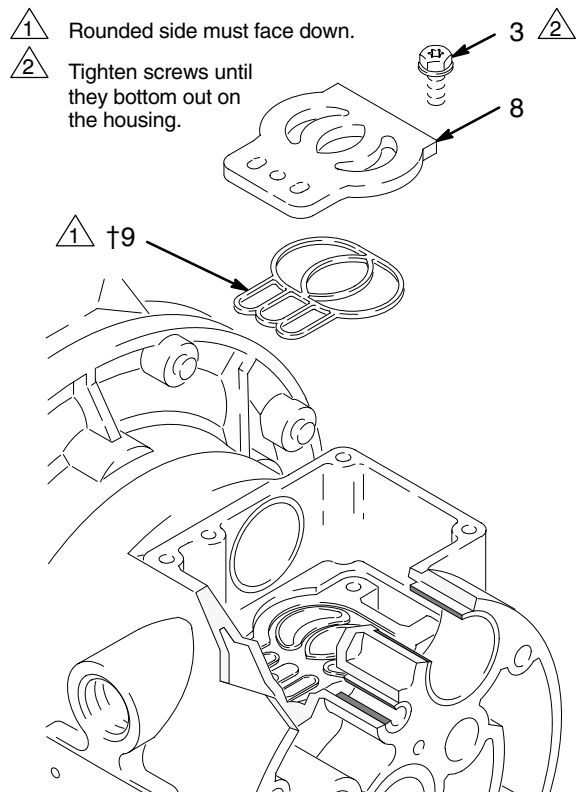

Fig. 11
5. Inspect the valve plate (8) in place. If damaged, use a #2 phillips screwdriver or 7 mm (9/32") socket wrench to remove the three screws (3). Remove the valve plate (8) and seal (9). See Fig. 11.
2. Install the valve plate seal (9†) into the groove at the bottom of the valve cavity. The rounded side of the seal **must face down** into the groove. See Fig. 11.
3. Install the valve plate (8) in the cavity. The plate is reversible, so either side can face up. Install the three screws (3), using a #2 phillips screwdriver or 7 mm (9/32") socket wrench. Tighten until the screws bottom out on the housing. See Fig. 11.